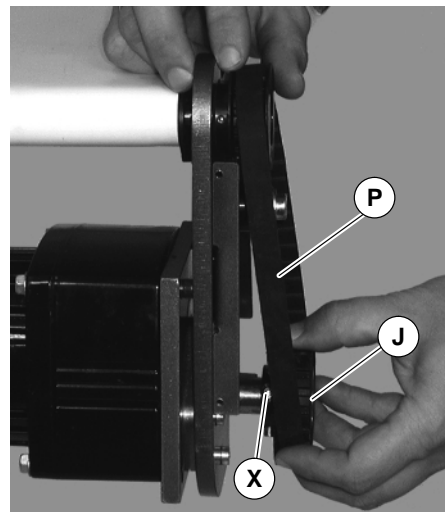

Figure 14
**NOTE:** If drive pulley (J of Figure 14) is replaced, wrap timing belt around drive pulley and complete step 3.
6. Loosen drive pulley set screws (X of Figure 14). Remove drive pulley (J) and timing belt (P).
**NOTE:** Drive pulley (J of Figure 14) is removed. Wrap timing belt around drive pulley and complete step 10.